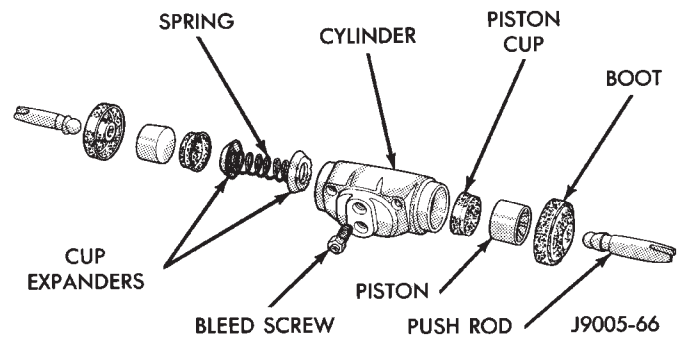

Fig. 56 Wheel Cylinder Components—Typical
- (1) Remove push rods and boots (Fig. 56).
- (2) Press pistons, cups and spring and expander out of cylinder bore.
- (3) Remove bleed screw.